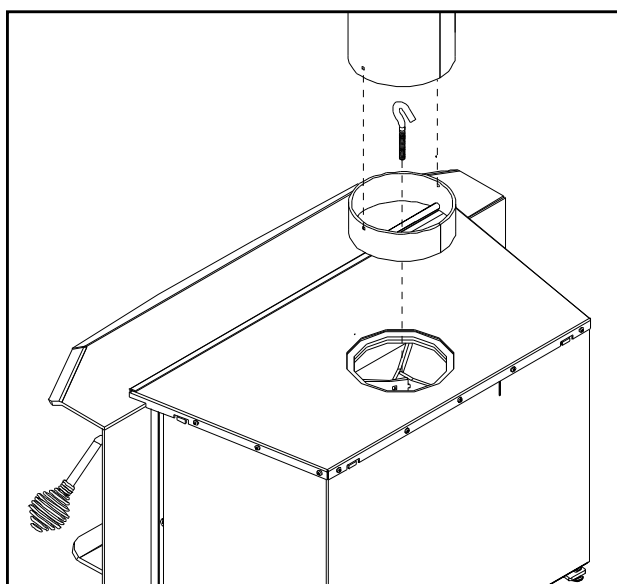

Figure 33: Attaching removable flue.
- f) Using the hook/bolt, grab the flue collar by the rod through the center and pull it into place (see Figure 33).
- h) Re-install ceramic baffles and the first two (2) front secondary air tube (see CERAMIC BAFFLE INSTALLATION).